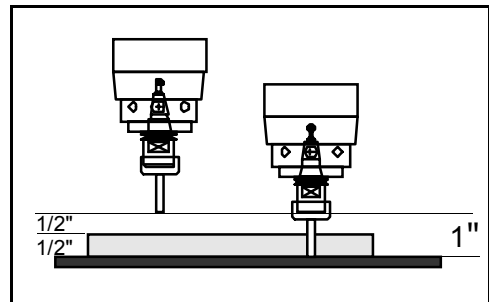

Figure 5.10 Z-depth plunge
**For example:** Assume the CNC machine tool is positioned a half-inch above a board. A Z-depth value of 1 inch causes the tool to drop 1/2-inch to the surface of the board, then plunge another 1/2-inch into the board. See *Figure 5.10*.